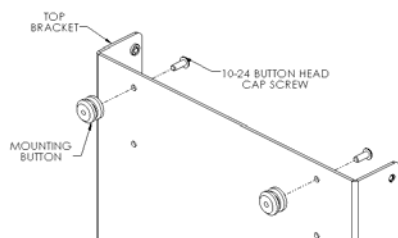
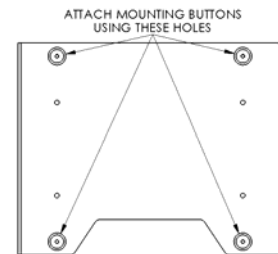

Figure 2
Figure 3
1. Using a 10-24 button head cap screw inserted from back side of top bracket, secure mounting button, with chamfered hole of mounting button (larger surface) facing bracket, bracket (four places) (see Figure 2 & Figure 3).